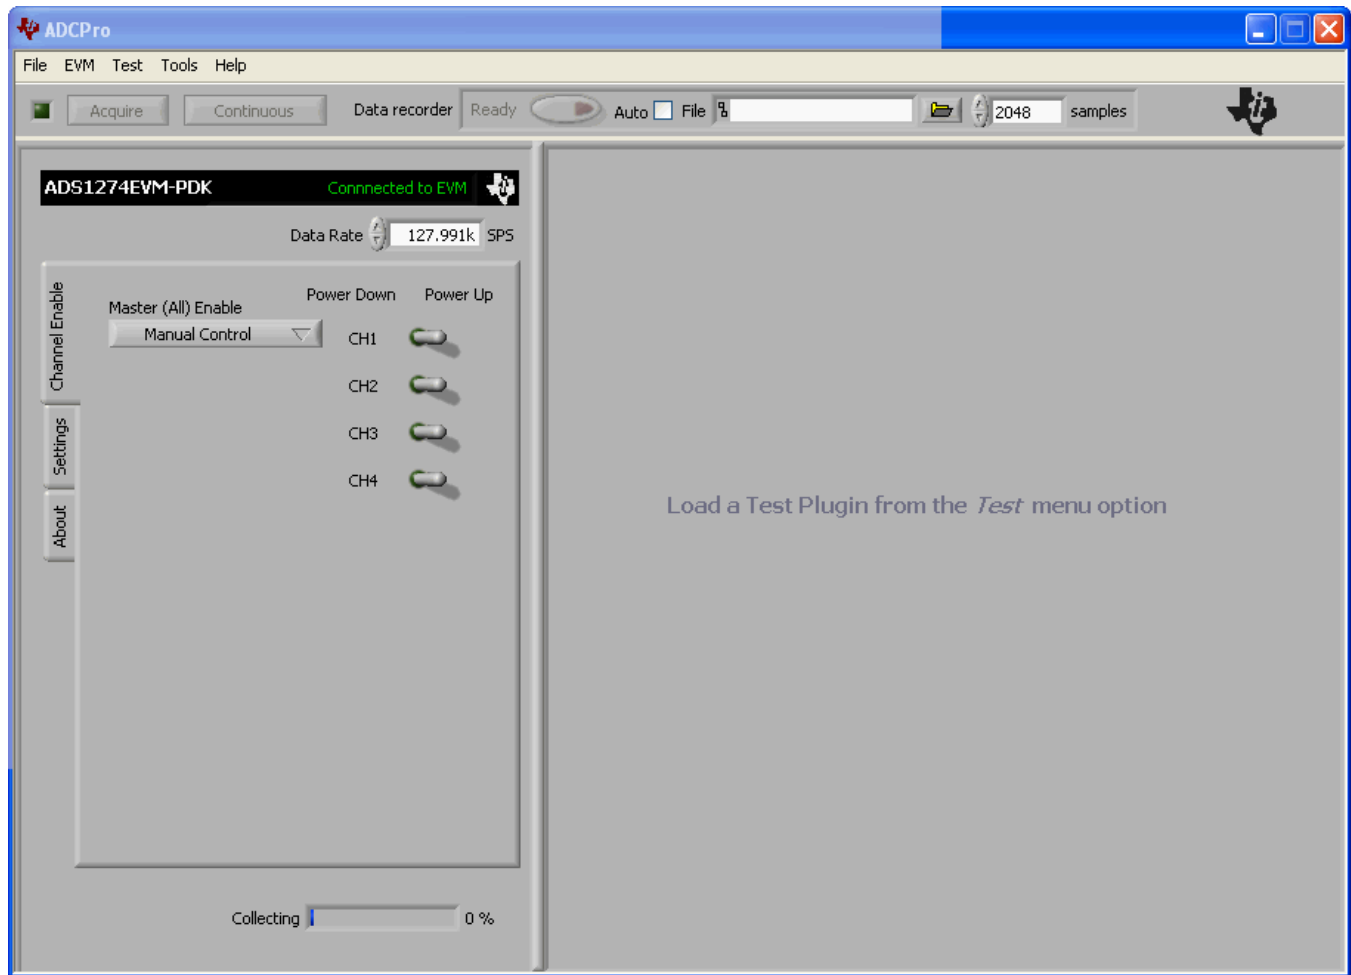

Figure 19. ADS1274EVM-PDK Plug-In Display Window
Step 2. Select *ADS1274EVM* from the EVM drop-down menu. The ADS1274EVM-PDK plug-in appears in the left pane, as shown in Figure 19.
The ADS1274EVM-PDK plug-in for ADCPro provides complete control over all settings of the ADS1274. It consists of a tabbed interface (see Figure 19), with different functions available on different tabs. These controls are described in this section.